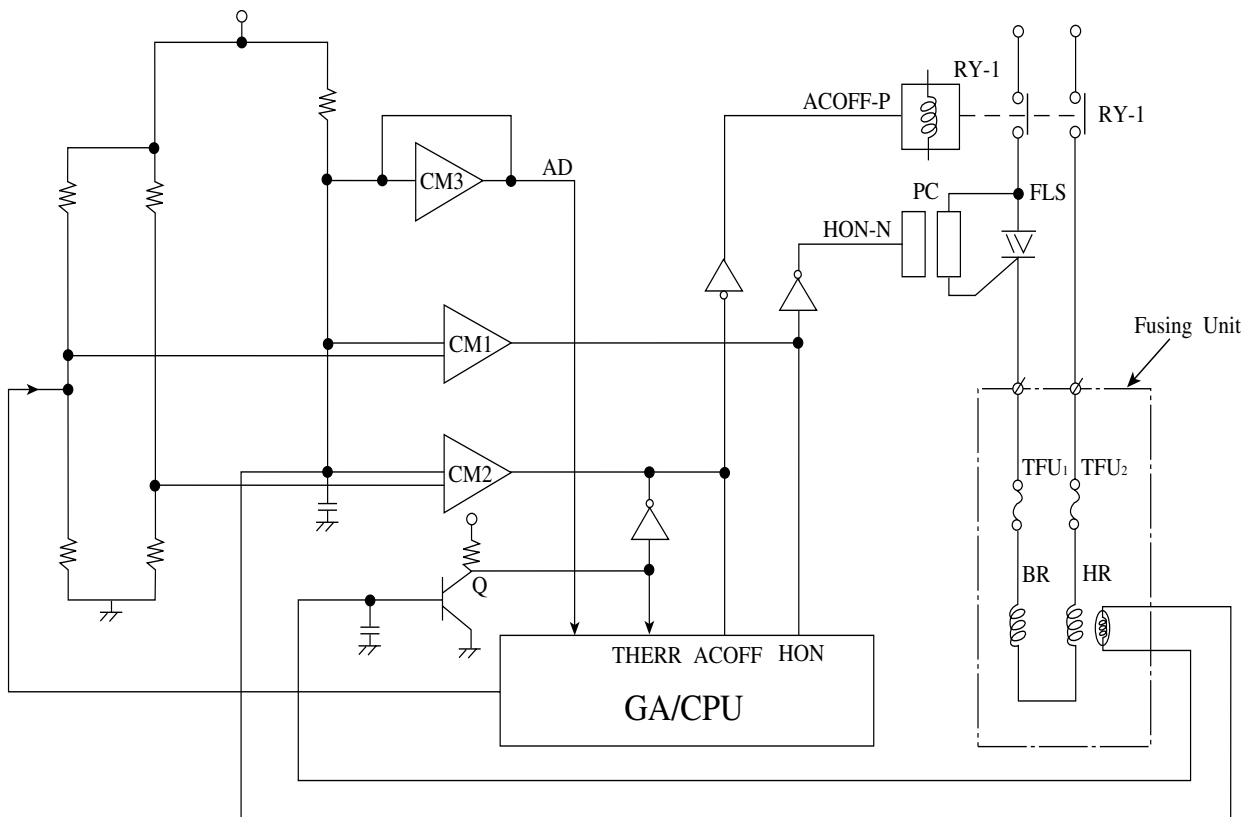

Fig. 4-35
4.6.2.3.1 Basic Structure of Temperature Control (see Fig. 4-35)
4.6.2.3.2 Characteristics of Signal (see Fig. 4-35)